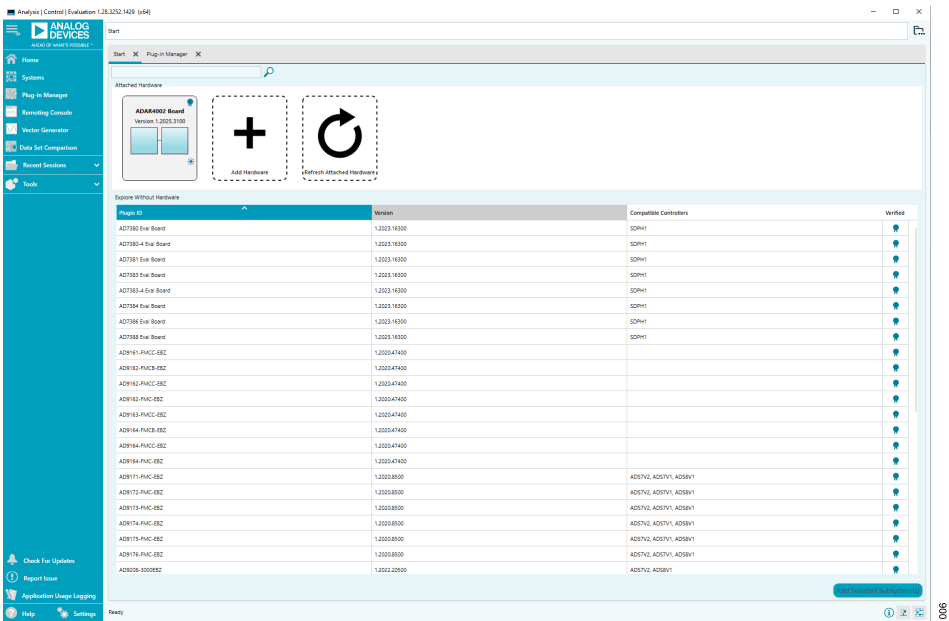

Figure 6. ACE Upon Startup If ADAR4002 Evaluation Is Connected
7. Launch the **ACE Software**. If the PC is connected to the SDP-S via the USB cable and the SDP-S is connected to the ADAR4002-EVALZ board, the **ADAR4002 Board** plug-in will be shown in the **Attached Hardware** area of the **ACE Software** window. See Figure 6. Double click the **ADAR4002 Board** plug-in.